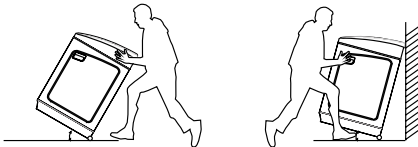

Fig. 8
- The washing machine is equipped with two rollers at the rear that can be used to easily move the machine to its desired location. Tilt the washing machine by approximately 30 degrees and push forward or pull backwards while holding the machine securely on both sides with your hands as illustrated below (Fig. 8).